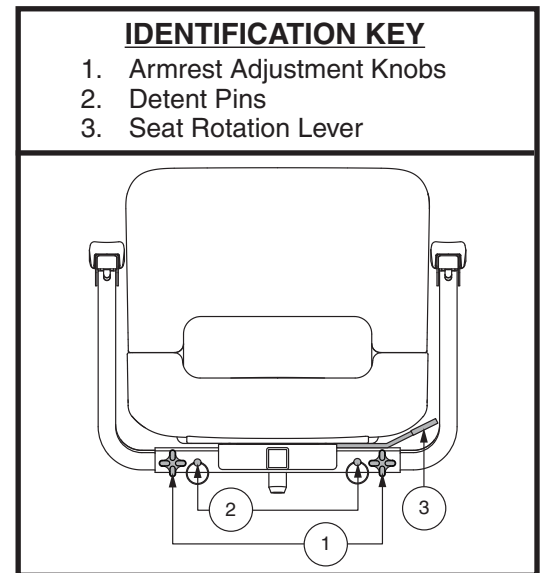

Figure 23. Seat Adjustments
The seat rotation lever, located on the right side of the seat base, secures the seat into several positions. See figure 23.
1. Loosen the armrest adjustment knobs. See figure 23.